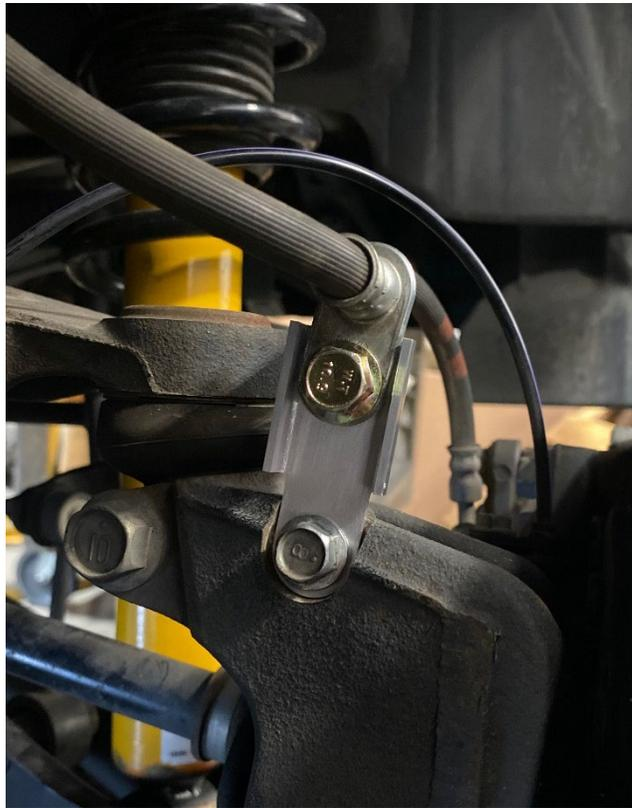

Figure 9.
**CC.** Apply non-permanent thread locker to the OE flange bolt and use it to install the rounded end of the supplied Bilstein brake line relocation bracket to the spindle. Make sure to orient the relocation bracket so the bent flanges are pointing towards the front of the vehicle as shown below in Figure 9.
**DD.** Attach the brake line to the front side of the relocation bracket so it is in between the two bent flanges (to prevent rotation). Use the supplied Bilstein M8 flange bolt and nut to secure the brake line to the relocation bracket as shown below in Figure 9.